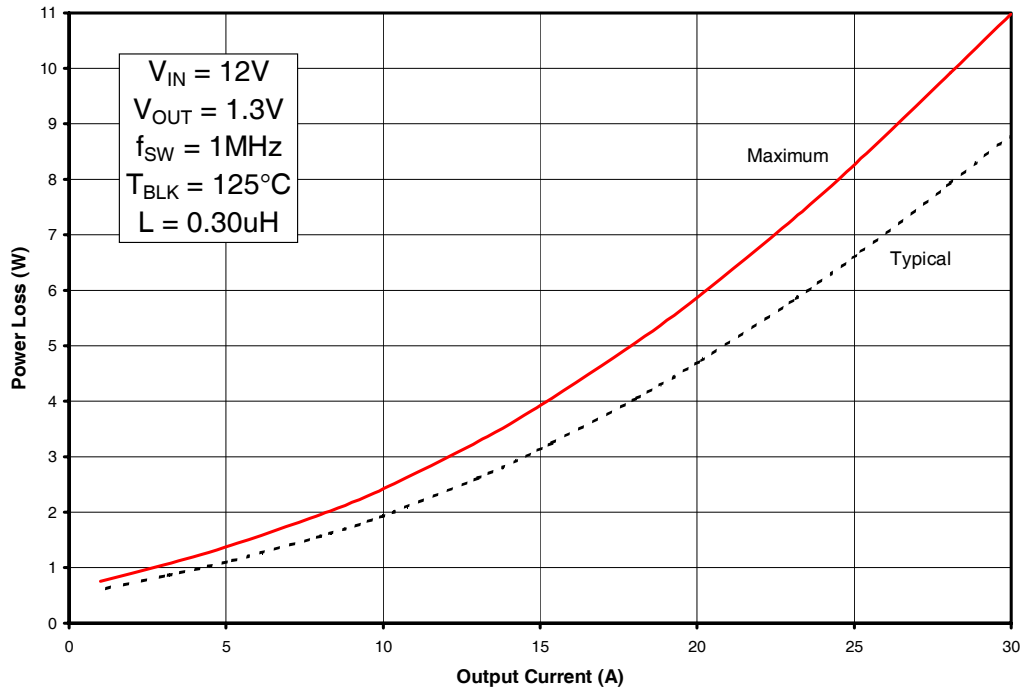
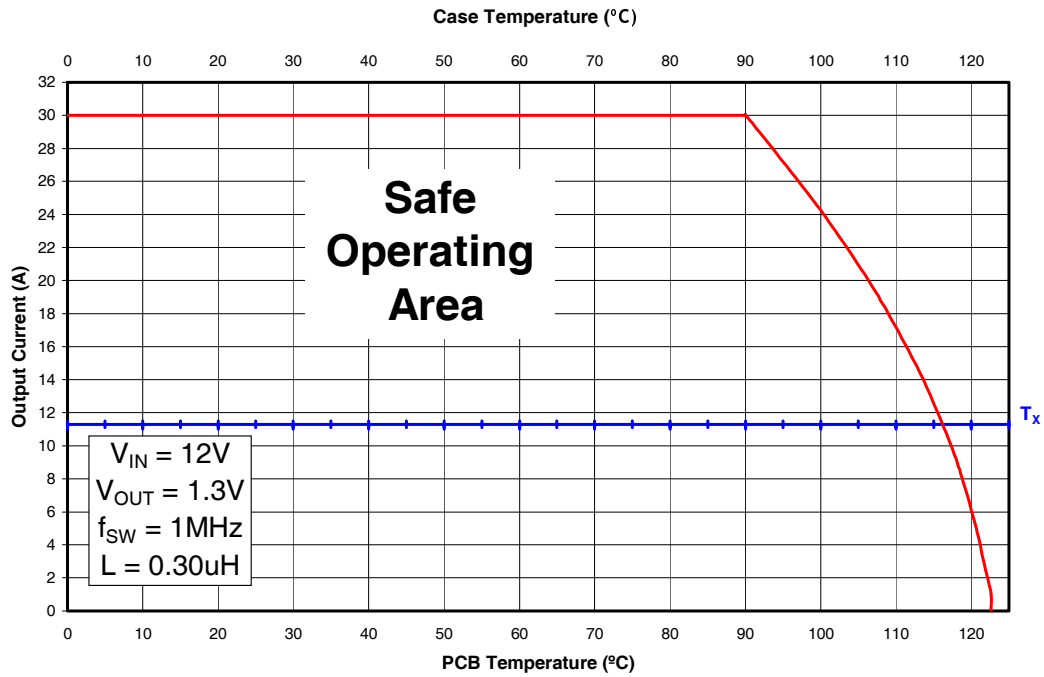
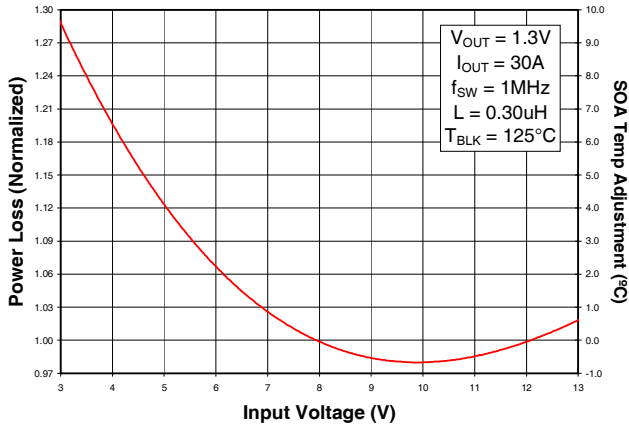

Fig. 1: Power Loss vs. Current
Fig. 2: Safe Operating Area (SOA) vs. T_{PCB} & T_{CASE}
Fig. 3: Normalized Power Loss vs. V_{IN}
To make adjustments to the power loss curves in Fig. 1, multiply the normalized value obtained from the curves in Figs. 3, 4, 5 or 6 by the value indicated on the power loss curve in Fig. 1. If multiple adjustments are required, multiply all of the normalized values together, then multiply that product by the value indicated on the power loss curve in Fig. 1. The resulting product is the final power loss based on all factors. See example no. 1.
To make adjustments to the SOA curve in Fig. 2, determine your maximum PCB Temp & Case Temp at the maximum operating current of each iP2002PbF. Then, add the correction temperature from the normalized curves in Figs. 3, 4, 5 or 6 to the T_x axis intercept (see procedure no. 2 above) in Fig. 2. When multiple adjustments are required, add all of the temperatures together, then add the sum to the T_x axis intercept in Fig. 2. See example no. 2.
- (Fig. 1) Maximum power loss = 11W
- (Fig. 3) Normalized power loss for input voltage ≈ 0.98
- (Fig. 3) Normalized SOA Temperature for input voltage $\approx -0.8^{\circ}\text{C}$